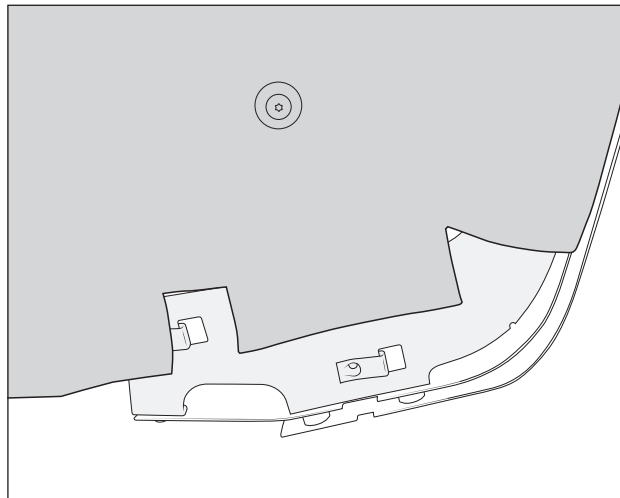

Figure 15
2. Trim the fabric wheel liner as shown (fig. 15) to allow it to lay flat against the bracket.